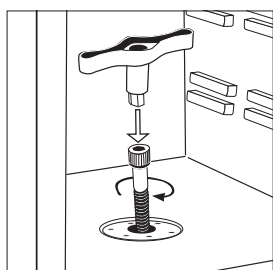

Figure 10
9. Place the safe back into position lined up over the hole and secure in place using the provided mounting bolt. Secure bolt tightly using the supplied hexagon wrench (Figure 10).